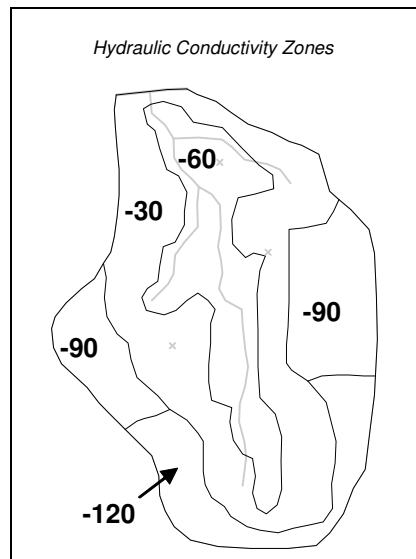

Figure 6-1 Hydraulic Conductivity Zones and Parameter Key Values.
First we will set up the hydraulic conductivity zones. The hydraulic conductivity polygons are shown in Figure 6-1. The five polygons will be used to define four parameter zones. The key values associated with each of the four zones are shown on the polygons in the figure.
4. Double click on each of the polygons shown in Figure 6-1 and assign the appropriate key value to the *Horizontal K* input field.